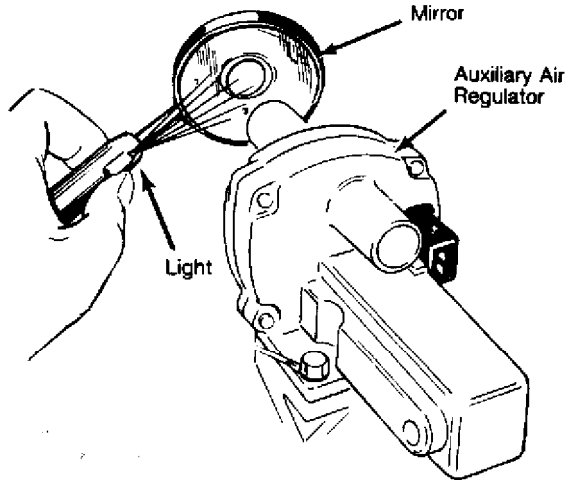

Fig. 12: Checking Auxiliary Air Regulator Operation
1) Disconnect hoses from auxiliary air regulator. Use mirror and small flashlight to inspect valve opening. See Fig. 12. At room temperature, valve should be slightly open. Valve should close within 5 minutes after cold engine starts.